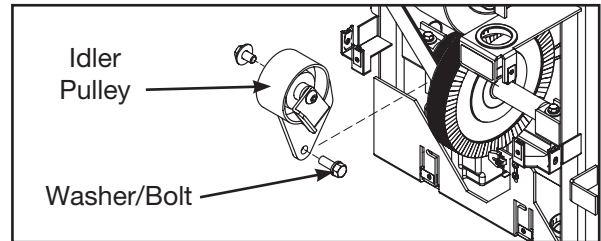

Figure 7
- B.** Remove the idler pulley from frame. See Figure 7. **NOTE:** Idler pulley is not needed with self-tensioning belt.